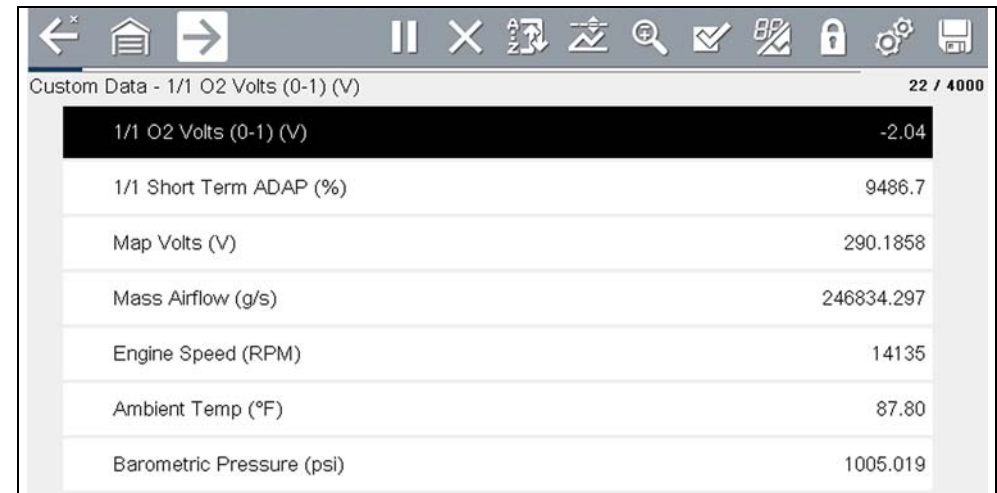

Figure 6-21
4. The custom list displays (*Figure 6-21*).